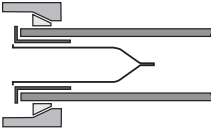

Fig. 3
5. Control spacer fit (4).
6. Check smooth engagement of ball in air seal (5).
9. Fasten new brine hose with connecting parts. Fasten kept bite ring (2) and collar (3) to the ball float unit. Install filter, bite ring and collar on adapter (see fig. 3).